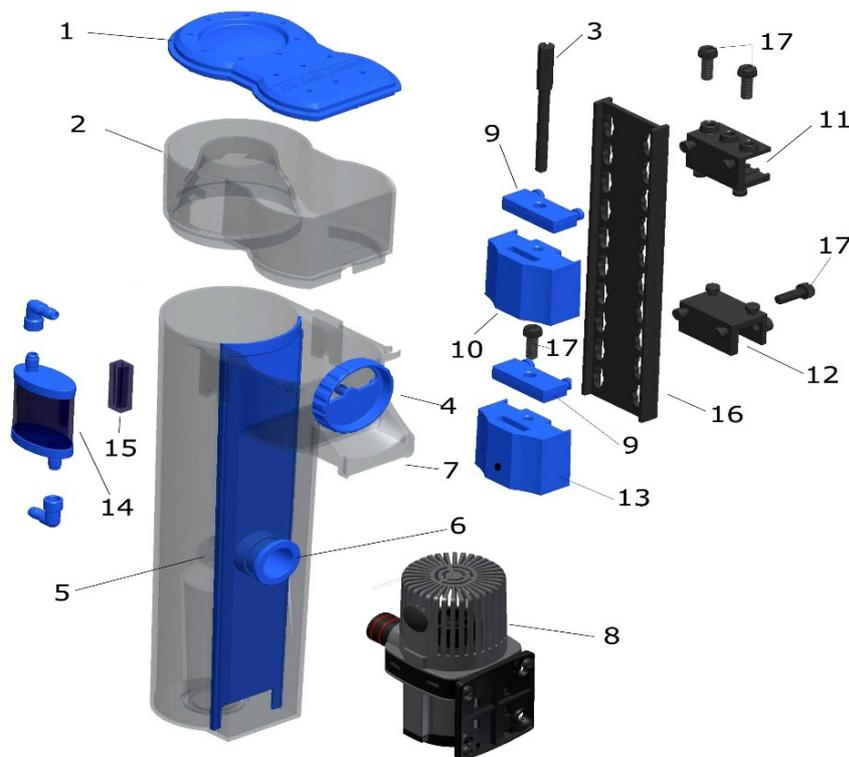
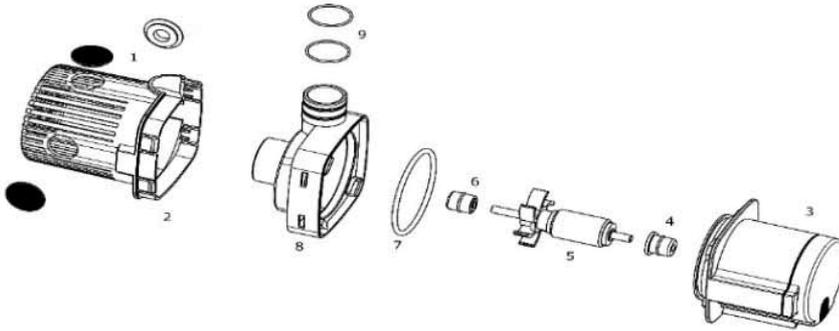

Fig. 1: EVO 501
Fig. 2: DC Runner 800
The pump DC Runner 800 is operated by an electronic safety transformer at AC 110 – 240 V / 50 – 60 Hz and 24 V DC output. Power consumption of the pump is max. 7 watts, protection rating is IP X8. To open the pump, release the pump lock (Fig. 2, No. 8) by turning it. **The pump must be mounted with the suction side upwards (see Fig. 1), otherwise the pump may stop.**
The venturi pump draws water out of the aquarium or filter chamber, mixes it with air in the pump housing which is then cut into small air bubbles by the needle wheel (Fig. 2, No. 5). This water/air mixture is then pumped into the reaction pipe where organic substances are taken up by air bubbles. Foam is formed and pushed into the foam cup. The purified water leaves the skimmer via outlet and is directed back to the aquarium or filter sump by the discharge (Fig. 1, No. 7).
First of all, the skimmer has to be put together according to Fig. 1. It can easily be mounted at the aquarium pane or a glass support by using the holding unit. The best place for mounting is either at the side or back – well accessible but protected. The pump is put into the connecting piece (6) of the skimmer, the cable points downwards and the air hose upwards to connect to the silencer (14). The sound absorber can be attached to the foam cup (2) or an aquarium pane by using the holding unit (15). To do so, take off the protective plastic film from the tape. The adhesive surface must be clean and free of grease.
By using the mounting profile (11), the retaining plate (7) can be fastened to a bar or vertical pane. Further down, a second profile (12) can be mounted as a spacer. The distance can be adjusted by using the screws (12a) so that the retaining plate hangs down vertically. On the opposite side of the mounting profile, the connecting piece (9) for the adjustment screw and holding plate are mounted. To do so, the adjustment screw (8) has to be put through the hole (9a) of the screw holder, then it has to be screwed in the thread (10) of the holding unit. This can be moved up and down by turning the screw (8). The skimmer is hung up by putting the laterally mounted holding bracket into the slot (10b) of the holding unit. In order that the skimmer hangs straight, a second holding unit with rubber feet (no picture) will be fixed as a spacer at the bottom of the retaining plate. The skimmer is adjusted in such a way that the discharge is above water level. Especially in freshly set up aquaria, skimmers can rarely be regulated in such a way that constant foam production occurs. This is only done when the aquarium is filled. To prevent overflowing of the foam cup uncontrollably the skimmer must not be immersed too deeply in the water (water level 1 - 2 cm below the discharge [(Fig. 1, No. 7)]).